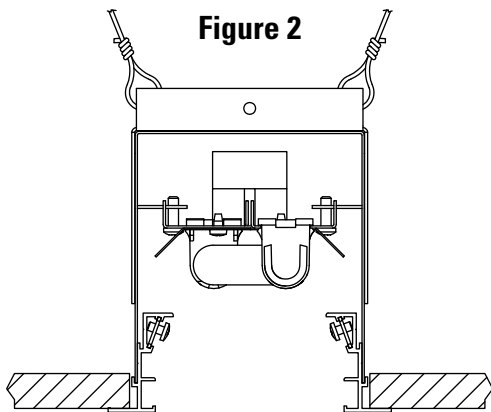

Figure 2
- E. Once all fixtures are installed, build ceiling around the fixtures. (Fig. 2)
- H. Once all fixtures are installed, build ceiling around the fixtures. (Fig. 2)